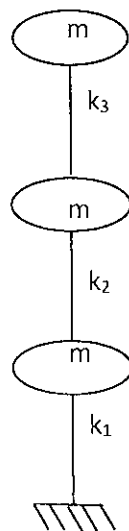

Figure 2: Three-story structure with three DOFs
Q. 8 calculate the vibration frequencies of the structure illustrated in Figure 2. The lateral story stiffness are 20 kN/mm, 18 kN/mm, and 22 kN/mm for 1st, 2nd, and 3rd story, respectively and mass are 200 kN for each storey. Also calculate the mode shape of the structure. Generalize the masses and stiffness corresponding to the mode shapes of the structure. [9]